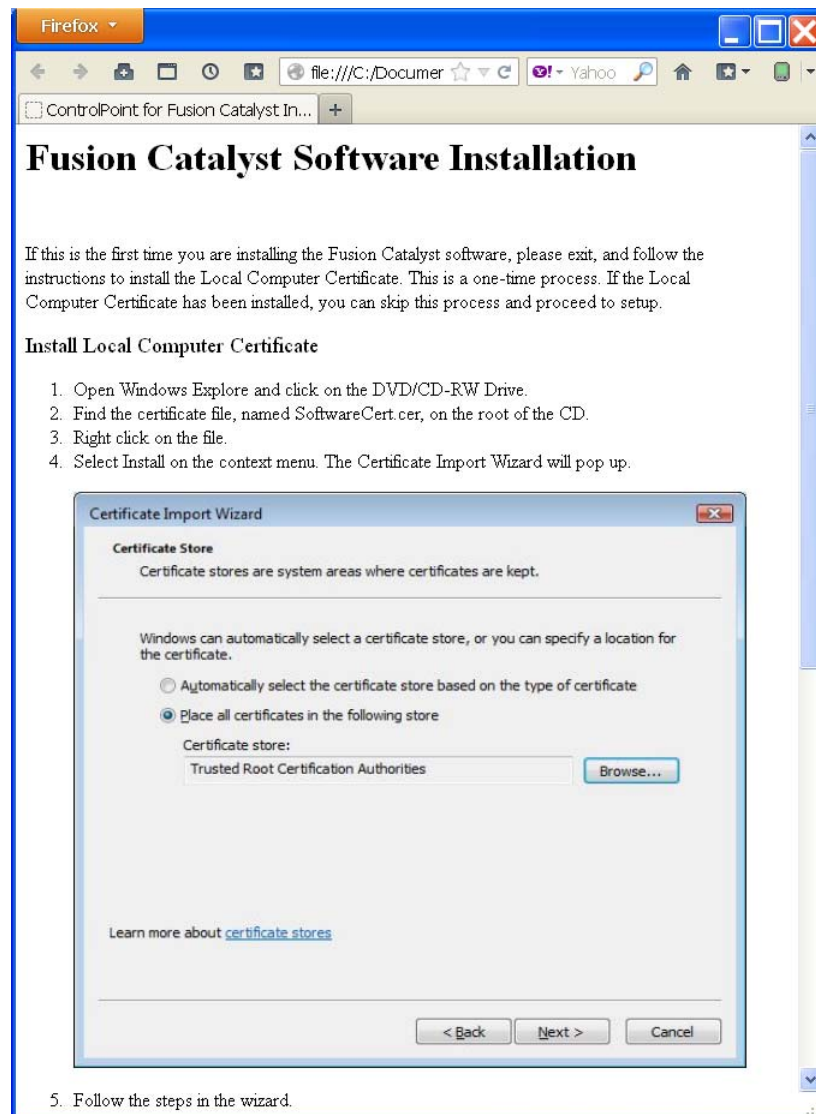

Figure 226 - HTML File Instructions
2. Upon completing the instructions on the HTML file from Figure 226 - HTML File Instructions, continue with the InstallShield Wizard with the following screens.